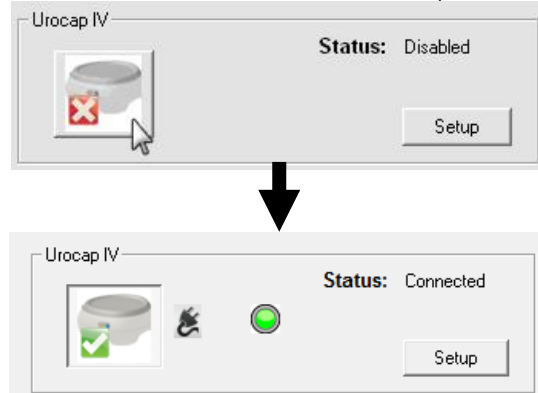

Figure 21: Finalizing Connection in the Device Manager
7. In the *Device Manager* window click the device button for the **Urocap™ IV**, the **Goby™ Hub**, and the **UDS Roam™**. Wait for the connection to establish and finalize as exemplified in Figure 21.